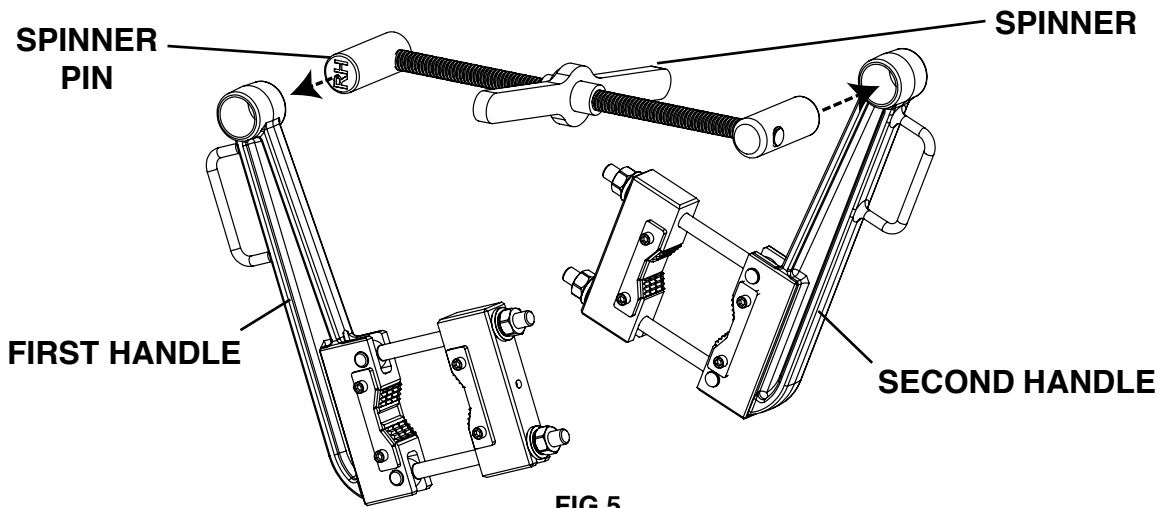
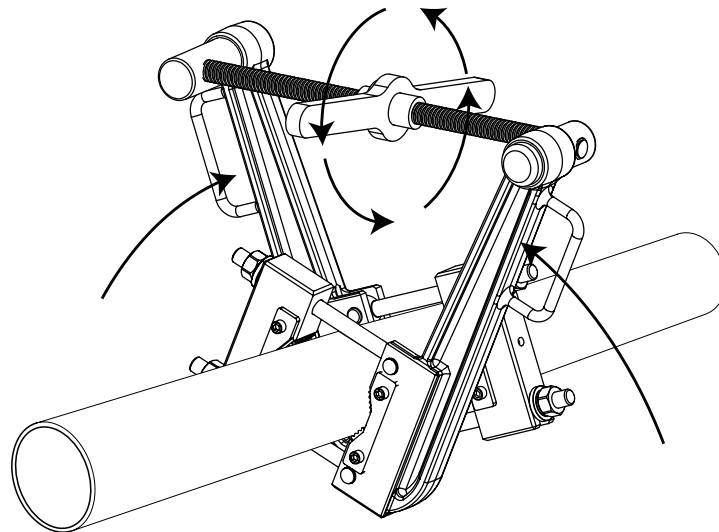

FIG 5
FIG 10
3. Assemble the remaining StraightLine Breakout Wrench parts, including second handle and spinner handle as illustrated. See FIG 5, 6, 7.
5. In order to “Break” a joint free, follow the preceding steps in the same order, but flip the position of the handles so that the two components unthread. See **FIG 10**. The first handle attaches to the second component and the second handle attaches to the first component. Flip the spinner pins 180 degrees. See **FIG 5** for reference.